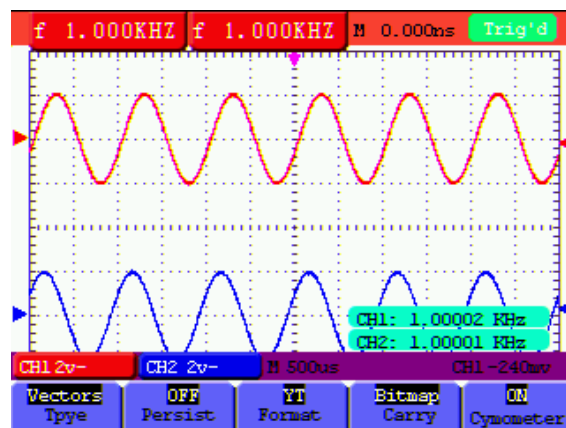

Fig 38: Frequency Counter Display
2. Use the **MENU ▲** or **MENU ▼** key to select DISP SET (Display Setting), five (5) options will appear at the bottom of the screen.
3. Use the **F5** key to select **ON**; refer to figure 38: